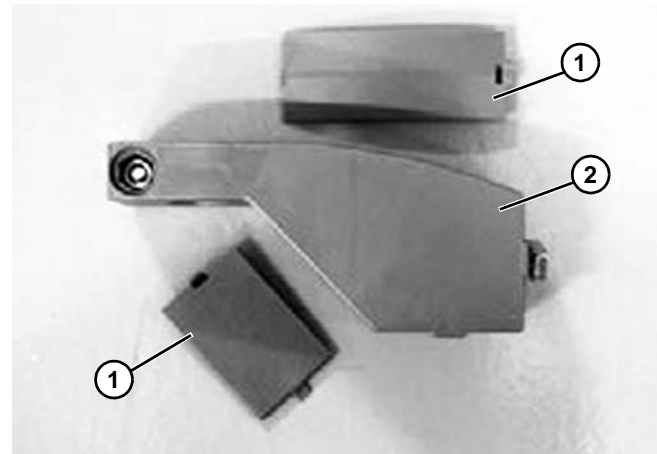

Figure 100
1. Open the upper and lower caps (Figure 100, item 1) on FGRB - 40 guide rail bracket (Figure 100, item 2), and install T-bolt.